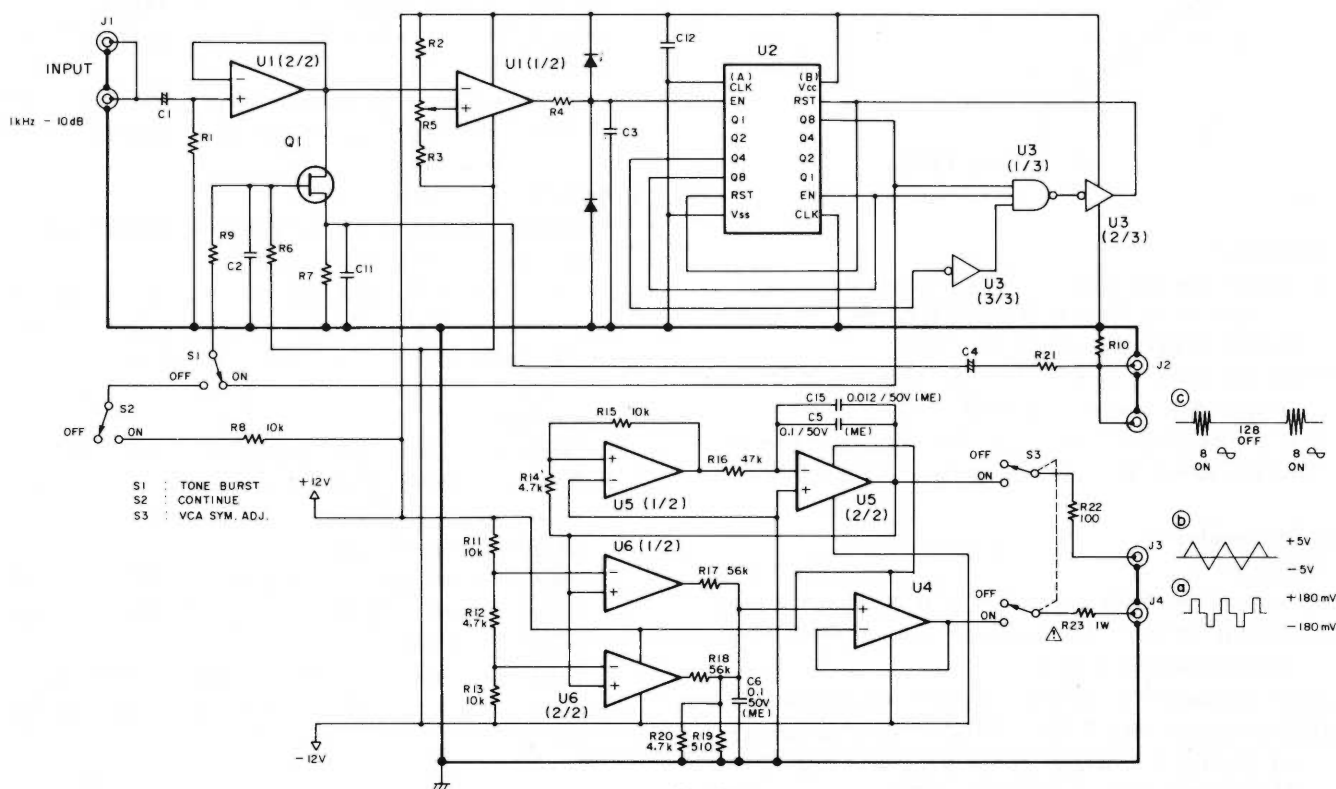

Fig. 4-6-8
- 1) Apply step wave (a) signal from the dbx designated circuit as shown in Fig. 4-6-8 to TP-13 ($\sim$ TP-43) terminal. Then connect TP-11 ($\sim$ TP-41) terminal to pin 3 of the connector D002 (Refer to GND, Fig. 4-6-1 (a)) to lead to the ground.
- 1) Feed a tone burst signal ③ (8 cycles on — 12 cycles off) as shown in Fig. 4-6-8 to the PGM BUSS IN 1 (~ 4) and connect on oscilloscope to TP-13 (~ TP-43).
- 1) Apply step wave signal ② from the circuit in Fig. 4-6-8 to TP-13 (~ TP-43) terminal.
- 2) Connect TAPE OUT 1 (~ 4) terminal to the "VER" side of the oscilloscope and sawtooth signal ② in Fig. 4-6-8 to the "HOR" side.
- 3) Apply tone burst signal ③ in Fig. 4-6-8 to TP-11 (~ TP-41) and pin 3 of connector P002, then connect the oscilloscope to TP-13 (~ TP-43).